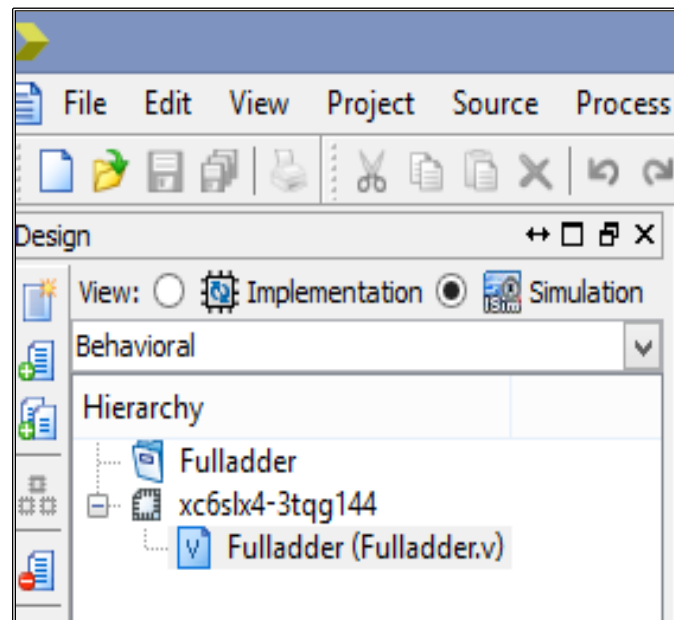

Fig 3.9: Simulation
10. After writing the code next step is to check the syntax and functionality of the design. For this, select **Simulation** Button in the Hierarchy window on the left pane (Fig 3.9).